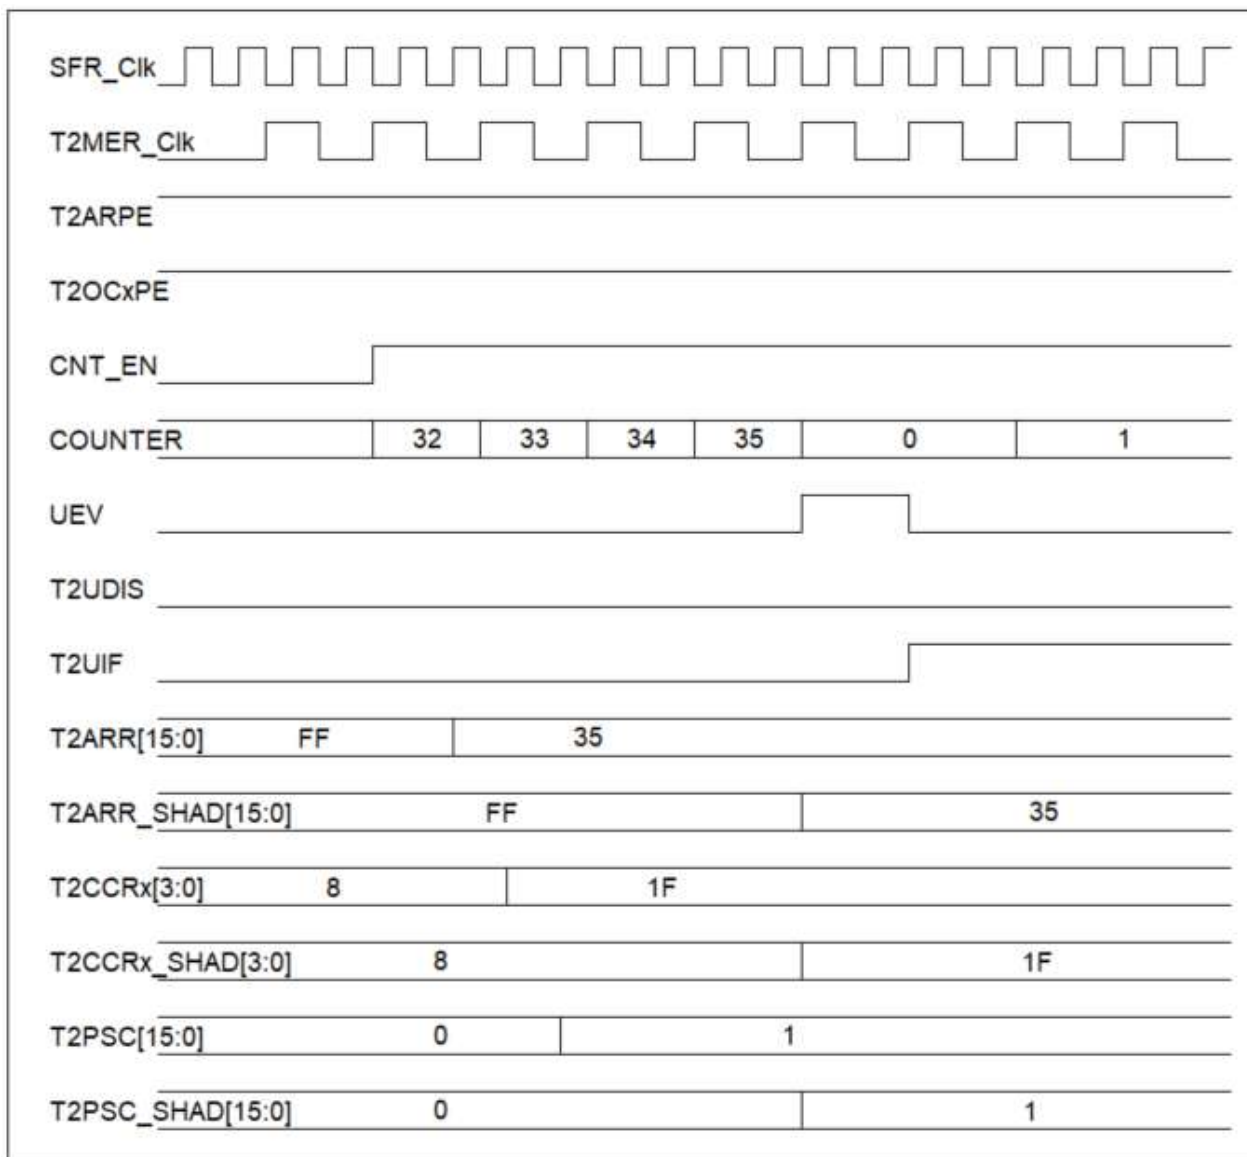

Figure 7-33 Update timing diagram of the pre-load registers under the update event
- When the counter is enabled ($T2CEN = 1$) and its corresponding preload is enabled ($T2OCxPE / T2ARPE = 1$), its shadow register will be updated to the preload value when an update event occurs, as shown in Figure 7-33;